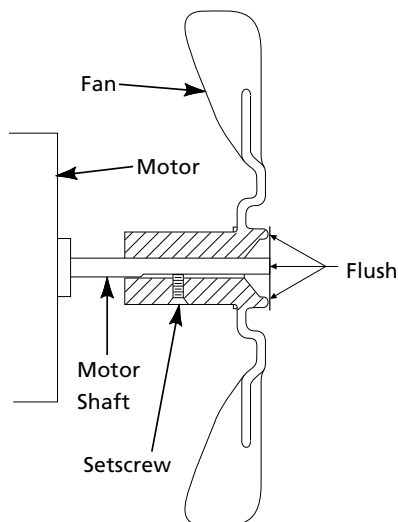

Figure 6 - Fan Cross Section
- Replace fan on motor shaft. Place fan hub flush with end of motor shaft (See Figure 6).